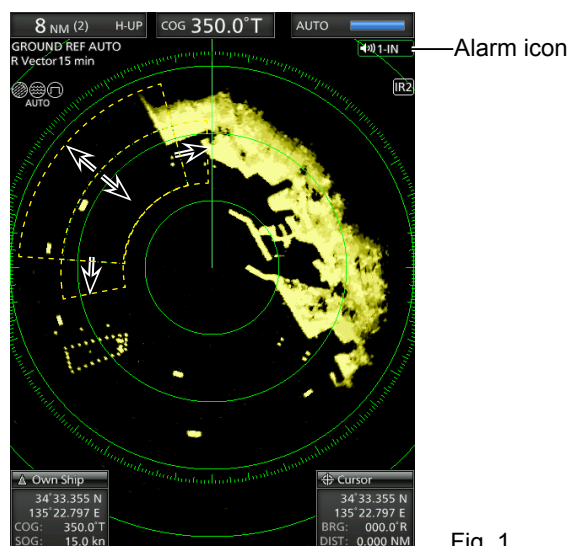
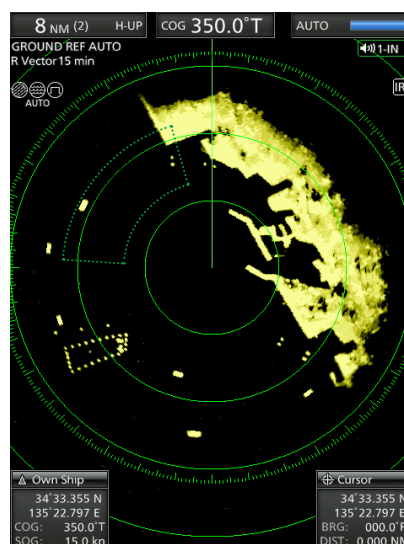

Fig. 1
Fig. 2
- The Alarm icon (📡) on the upper right of the screen and the preset alarm zone(s) is displayed. (Fig. 1)
- The starting zone is displayed on the screen. (Fig. 1)
- ① Push [CLEAR]/[取消] to stop the alarm.
- ① Push [ALM1/2]/[报警1/2] to cancel the alarm signal and function.
- “📡” and the preset alarm zone is displayed. (Fig. 2)